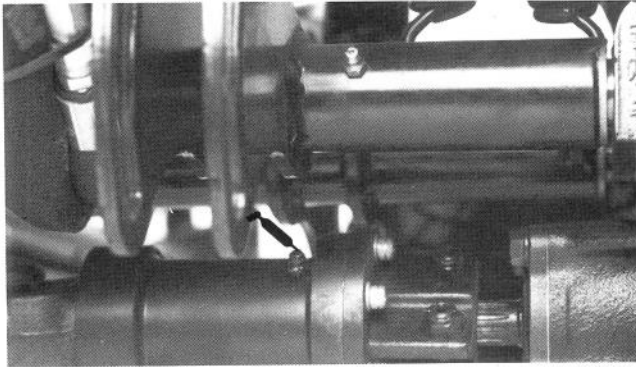

Figure 23
1. The grease fitting locations and quantities are: Drive shaft clutch (1) (Fig. 23); Rear axle tie rod (2), Steering cylinder ball joints (2), Rear axle pivot (1) (Fig. 24); Drive shaft support bearing (1), Rear axle drive shaft (3) (Fig. 25).